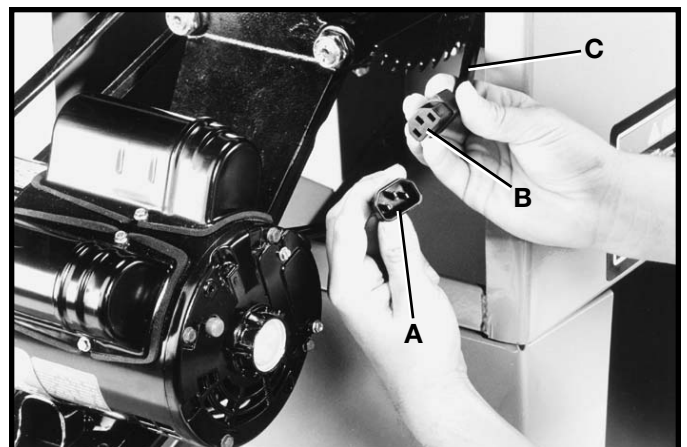

Fig. 26
1. Insert the pronged motor plug (A) Fig. 26, into the female receptacle (B) of switch-to-motor cord (C).